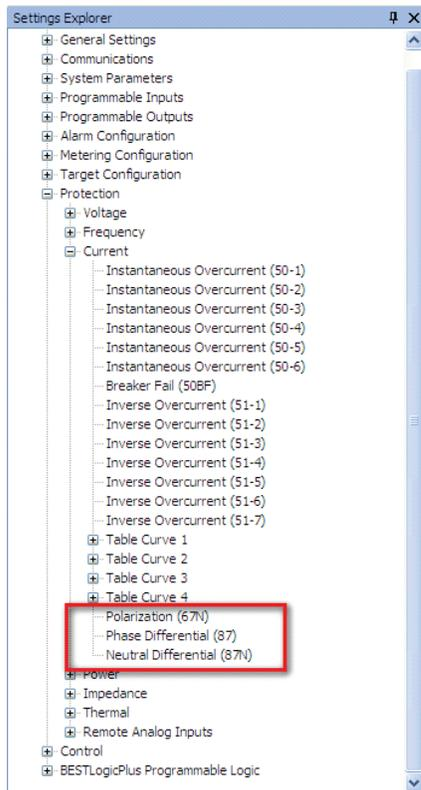

Figure 5 - Current Element in BESTCOMSPPlus®
The protection functions discussed above for a generator stator protection are available in the BEI-11g. It offers phase (87), neutral (87N) differential, and polarization (67N) elements under current element in BESTCOMSPPlus® (Figure 5). The 87 element in the BEI-11g is a three-phase percentage restrained current differential with dual slopes. Users can choose between using percentage differential or flux balance differential by Mode selection in BESTCOMSPPlus. Harmonic restraint to improve security and transient monitor to detect the effects of CT saturation during a through fault are also included under this element. The 87N element detects an imbalance between the calculated neutral current (3I0) and the measured ground current (IG).